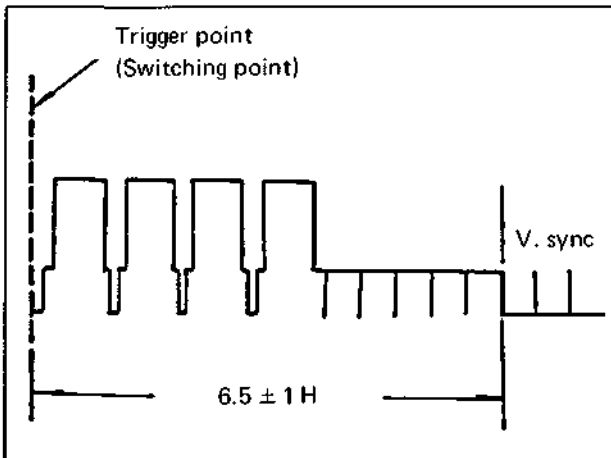

Fig. 5-9 Switching point
3. Set oscilloscope sync slope to minus (-). Connect the oscilloscope to TP-1 (VIDEO IN) and adjust R21 (CH-1 SW PHASE) so that the fall portion of the vertical sync signal becomes positioned 6.5 H from the trigger point (switching point) as shown in Fig. 5-9.
4. Connect the oscilloscope to TP-1 (VIDEO IN) and adjust R59 (REC SW PHASE) so that the fall portion of the vertical sync signal becomes positioned 6.5 H from the trigger point (switching point) as shown in Fig. 5-9.